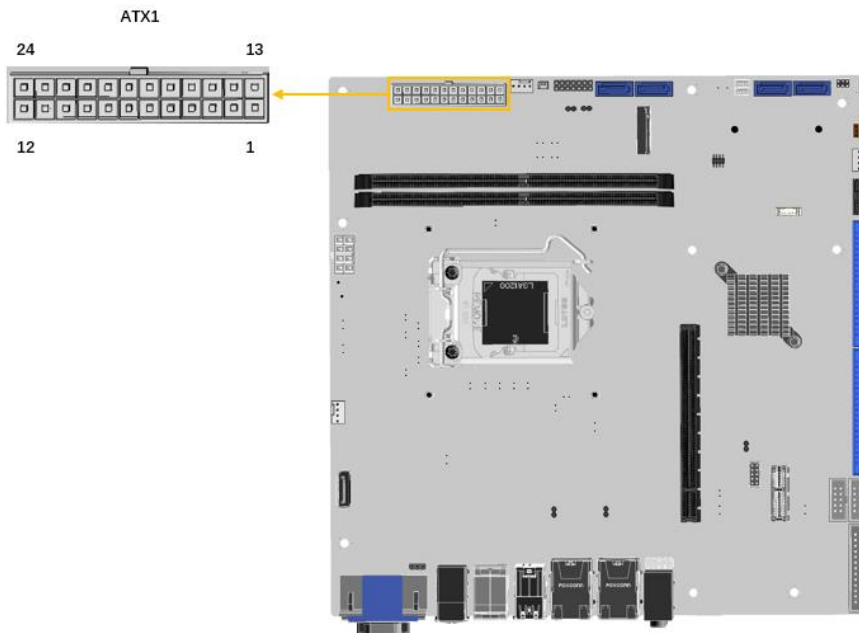

Figure 3-7: ATX Power Connector Location
- CN Location:** See Figure 3-7